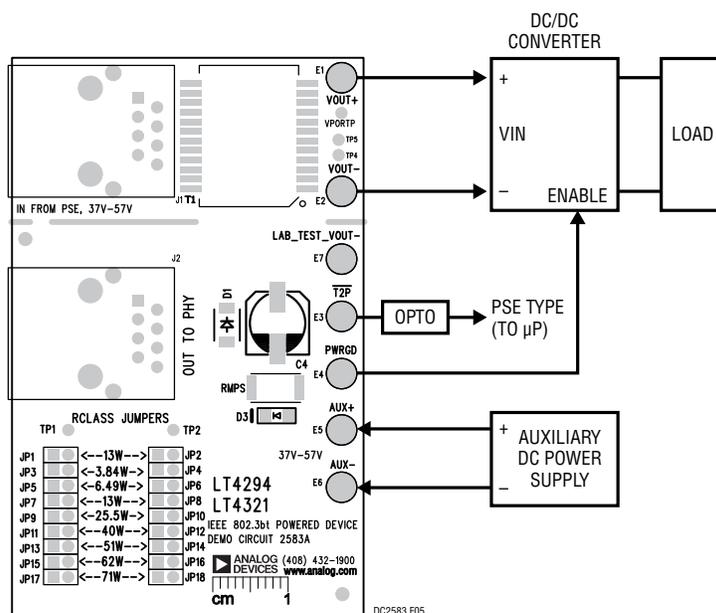

Figure 5. Setup Diagram for Auxiliary Supply Input
1. Place and connect test equipment as shown in Figure 5.
3. Connect the output of the auxiliary supply to the DC2583A as shown in Figure 5. Turn on the auxiliary supply and set its current limit to 2A. Then increase its output voltage to 48V.
5. Verify $\overline{T2P}$ response with an oscilloscope as shown in Figure 5. The $\overline{T2P}$ response during auxiliary power operation is provided in Table 3.